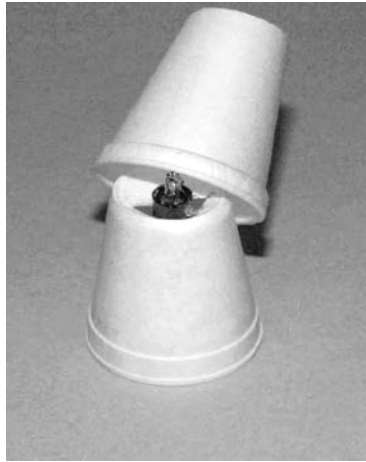

Figure 15—Protection of Light Filaments for Submission
- c. Handle small broken lamps in essentially the same manner. It is better to remove the part of the light fixture holding the lamp base than to attempt to remove the bulb from the fixture. Styrofoam cups can be used to package and protect small broken lamps. (See Figure 15)